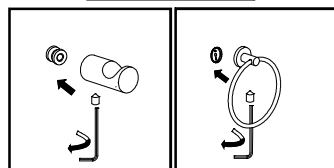

FIGURE 2
- Release set screw at the side of product to obtain mounting bracket. (FIGURE 2)